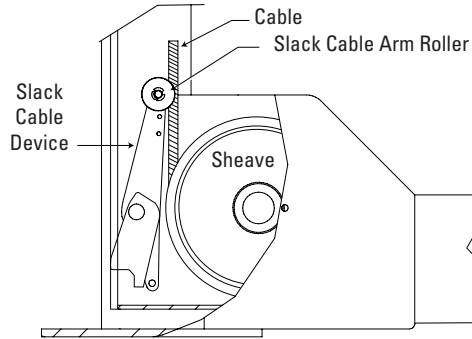

Fig. 16
**IMPORTANT** Cables must fit in slack cable arm rollers, Fig. 16.